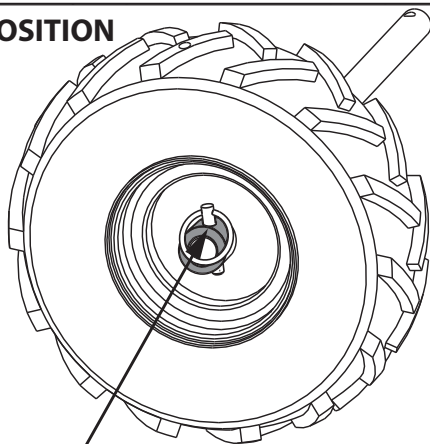

FIGURE 11
1. Remove lock pin. Slide wheel slightly outward away from machine. Align hole in axle with hole in wheel hub. **SEE FIGURE 11 (Next Page)**